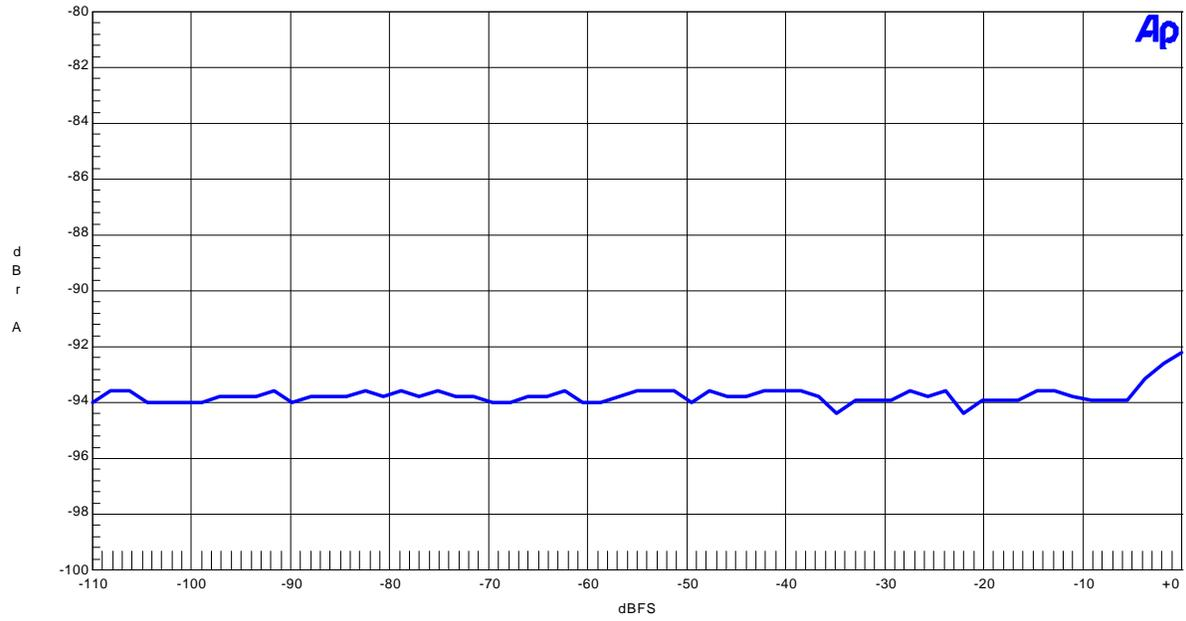

Figure1-5. THD+N vs. Input level (fin=1kHz)
- Figure 1-5. THD+N vs. Input Level (fin=1kHz)